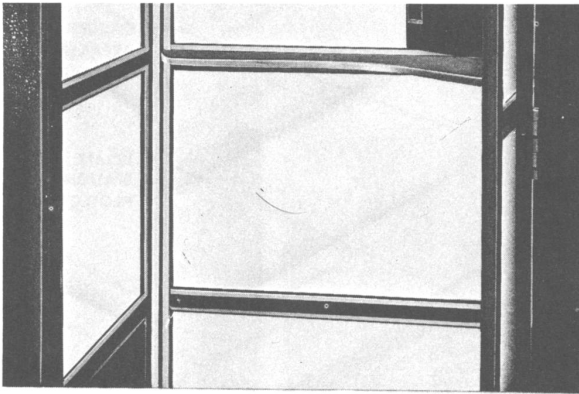

Fig. 10 — KS-16797, List 76 Shelf Installed
7.02 KS-16797, List 76 shelf (Fig. 10), used when a directory rack is not required, is located along the back of the booth under the backboard. Install as follows: